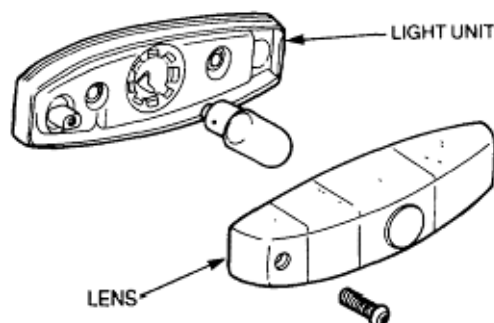

Figure 152 Side Indicator Light Exploded View
- Remove the lens and remove the bulb (Figure 152).